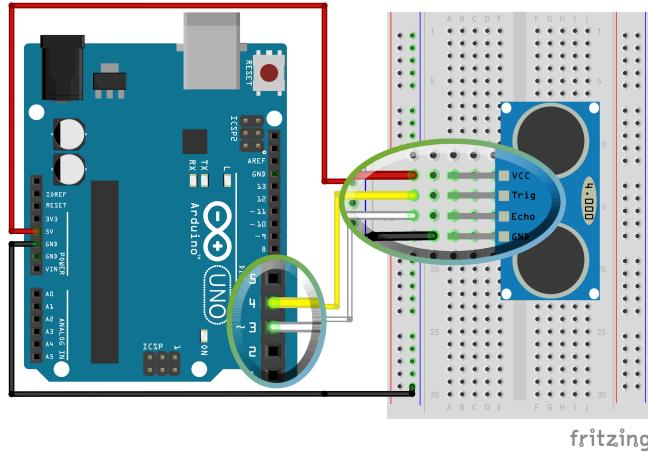

Figure 7: Distance sensor connection
- 1) Build the circuit shown in Figure 7.